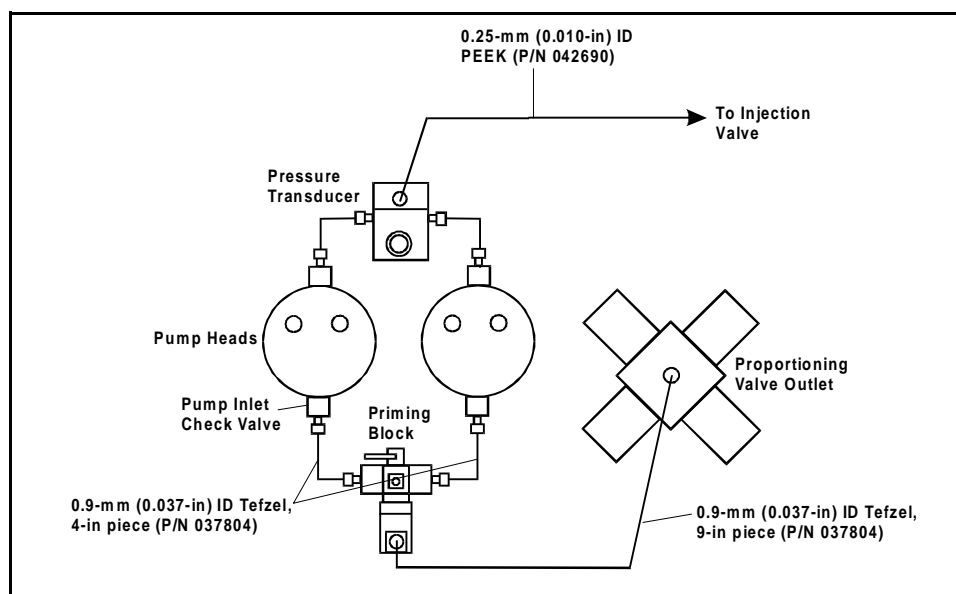

Figure D-6. Standard Bore Liquid Line Connections
2. Locate the 0.25-mm (0.010-in) ID PEEK (P/N 042690) in the Ship Kit and connect it between the pressure transducer outlet and the injection valve inlet (see Figure D-6). Use Dionex 10-32 ferrules (P/N 043276) and fittings (P/N 043275) for the connections.
12. Locate the 0.9-mm (0.037-in) ID Tefzel™ (P/N 037804) tubing in the kit. Connect a 9-in piece between the proportioning valve outlet and the priming block inlet (see Figure D-6). Use two 1/4-28 reversed-ferrules (P/N 048950) and fittings (P/N 048952) for the connections. Connect a 4-in piece between each priming block outlet and pump inlet, using 1/4-28 reversed-ferrules and fittings for the connections.